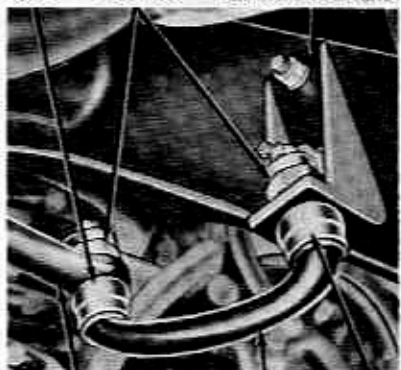

FIG. 14—Steering Idler Arm
1. Remove the cotter pin and nut which attach the spindle connecting rod ball stud to the steering arm to idler arm rod (Fig. 14). Tap the ball stud out of the rod. Be careful not to loosen or bend any parts on the steering arm to idler arm rod.
1. Remove the idler arm bracket (Fig. 14) from the underbody, and then remove the bracket and rear bushing from the idler arm.